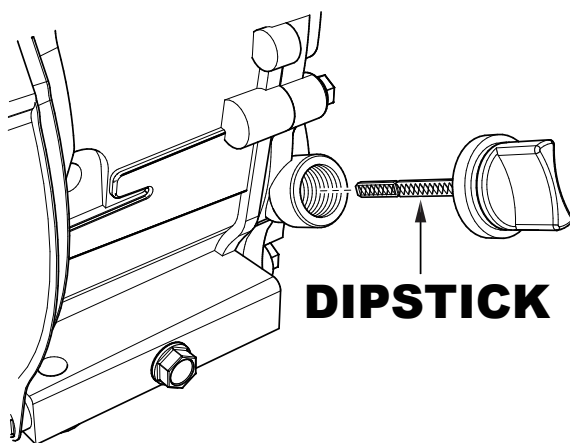

Figure 5. Engine Oil Dipstick (Removal)
2. Remove the filler dipstick from the engine oil filler hole (See Figure 5) and wipe clean.